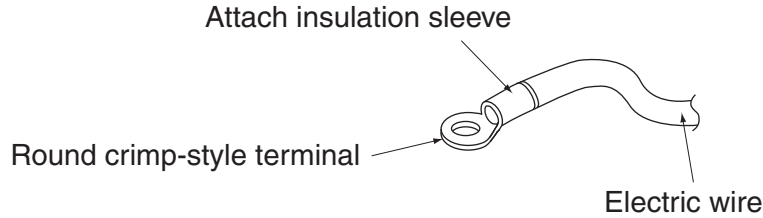

Fig. 23
1. Use round crimp-style terminals for connecting wires to the power supply terminal block. (Refer to Fig. 23)